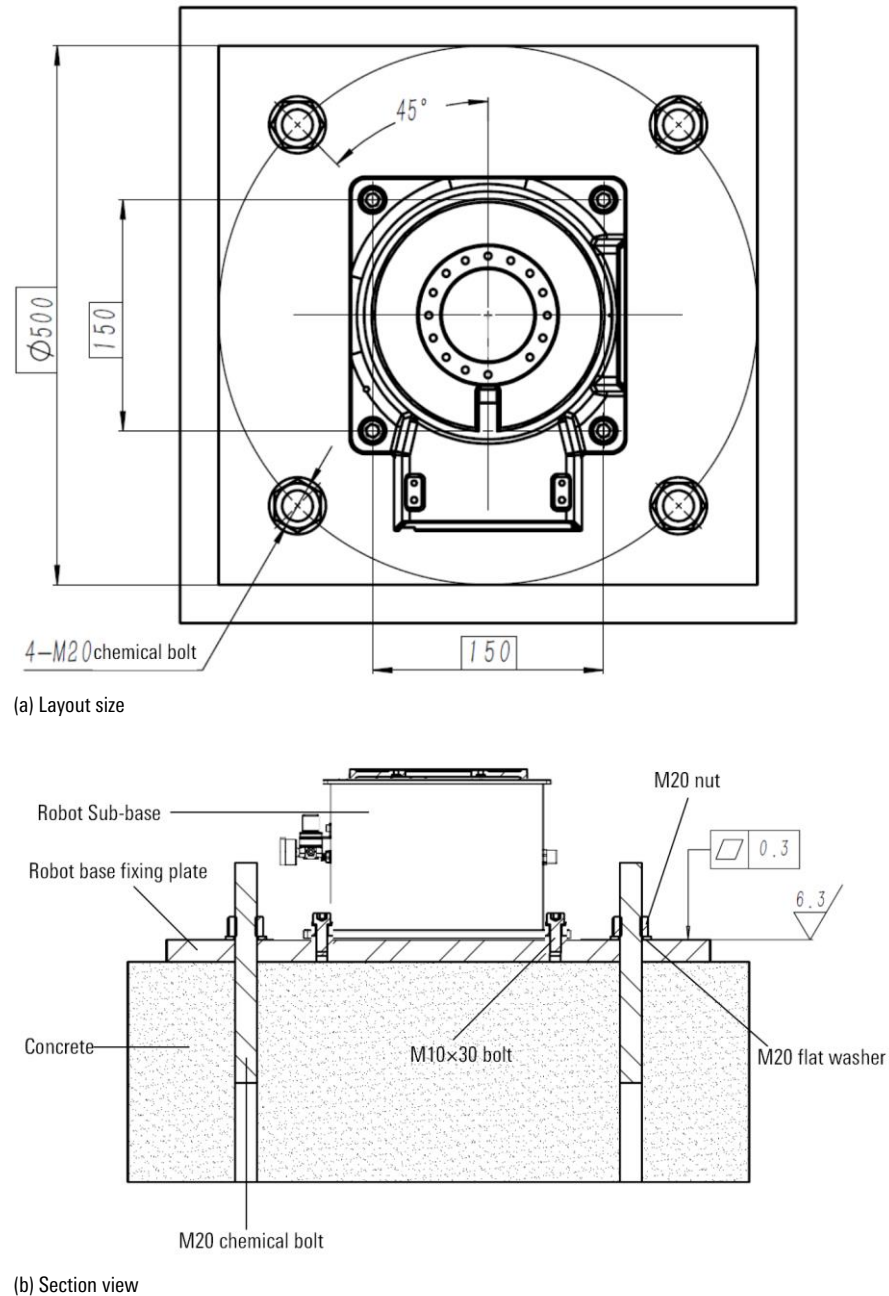

Figure 3-3 Ground fixed diagram
- Step1. According to the recommended size shown in Figure 3-3, arrange M20 chemical bolts (strength grade not less than 4.8) on the concrete foundation. Please strictly follow the instructions for the selected chemical bolts for installation;